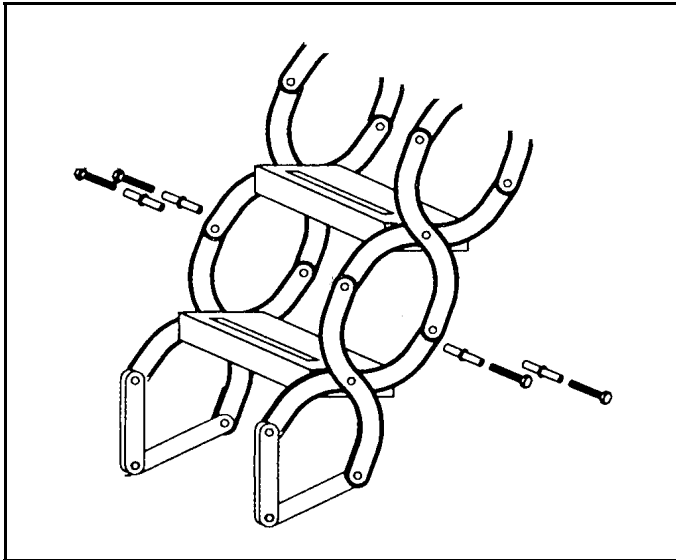

Figure 12
1. With stair fully extended to floor, remove bottom step of unit by removing the four bolts, washers and sleeves. Figure 12. This step has white rubber bumpers that must make contact with the floor. It will be added back as the last step.